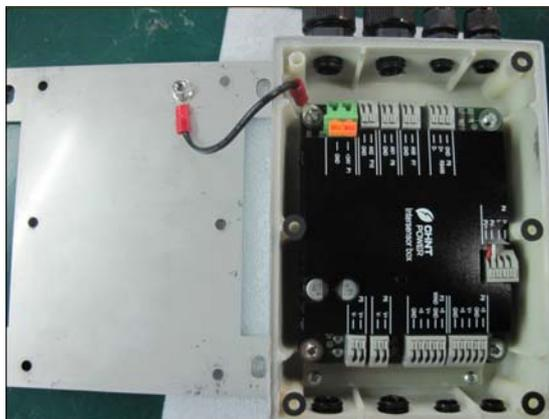

Fig 4-2 Internals of Intersensor BOX
(2) Open the Intersensor BOX, as shown in Fig.4-2